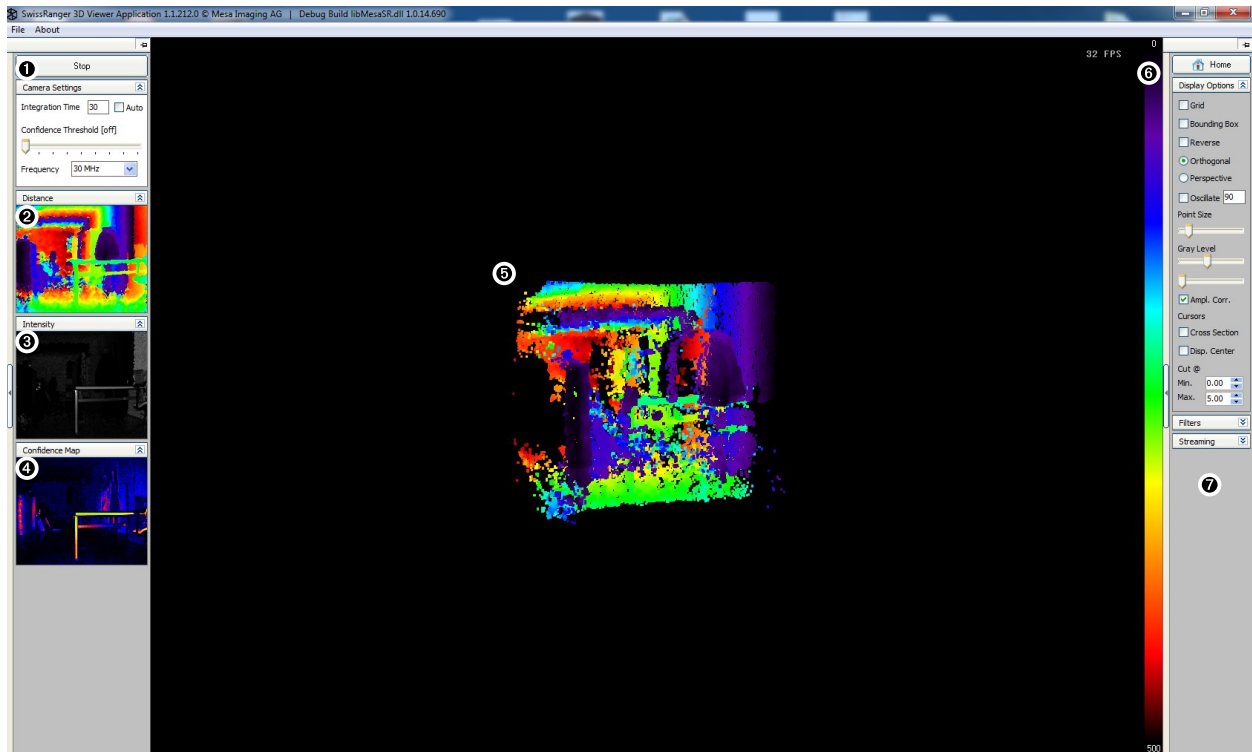

Figure 13.3: The SR_3D_View Interface showing distance, gray scale and confidence map images on the left hand side and 3D projection in the main window.
To connect to a SwissRanger camera, click the Start button: **Start**. In order to enter the opening to select a camera manually dialog hold the **Ctrl** key and press the button **Start**. The button **Start** will change to **Stop** (as can be seen in figure 13.3, ❶).
As shown in figure 13.3, the distance (❷), gray scale (❸) and confidence map (❹) images will appear on the left hand side of the main window. Those images are unadjusted raw pixel arrays, whereas the 3D projection of the central image (❺) has been adjusted by the coordinate transformation function in the driver to compensate for radial distortion in the optics, removing the “pin cushion” effect. Here the full (x, y, z) coordinate vectors are displayed. The coloring of the points can be selected as a color